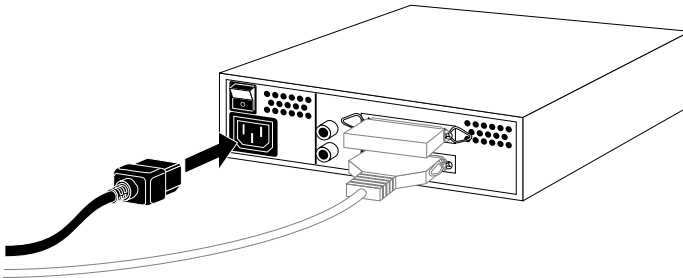

Figure 5-11 Connecting the Power Cable to an External Device
5. Connect one end of the power cable that came with your device to the power connector on the back of the device, as shown in Figure 5-11.